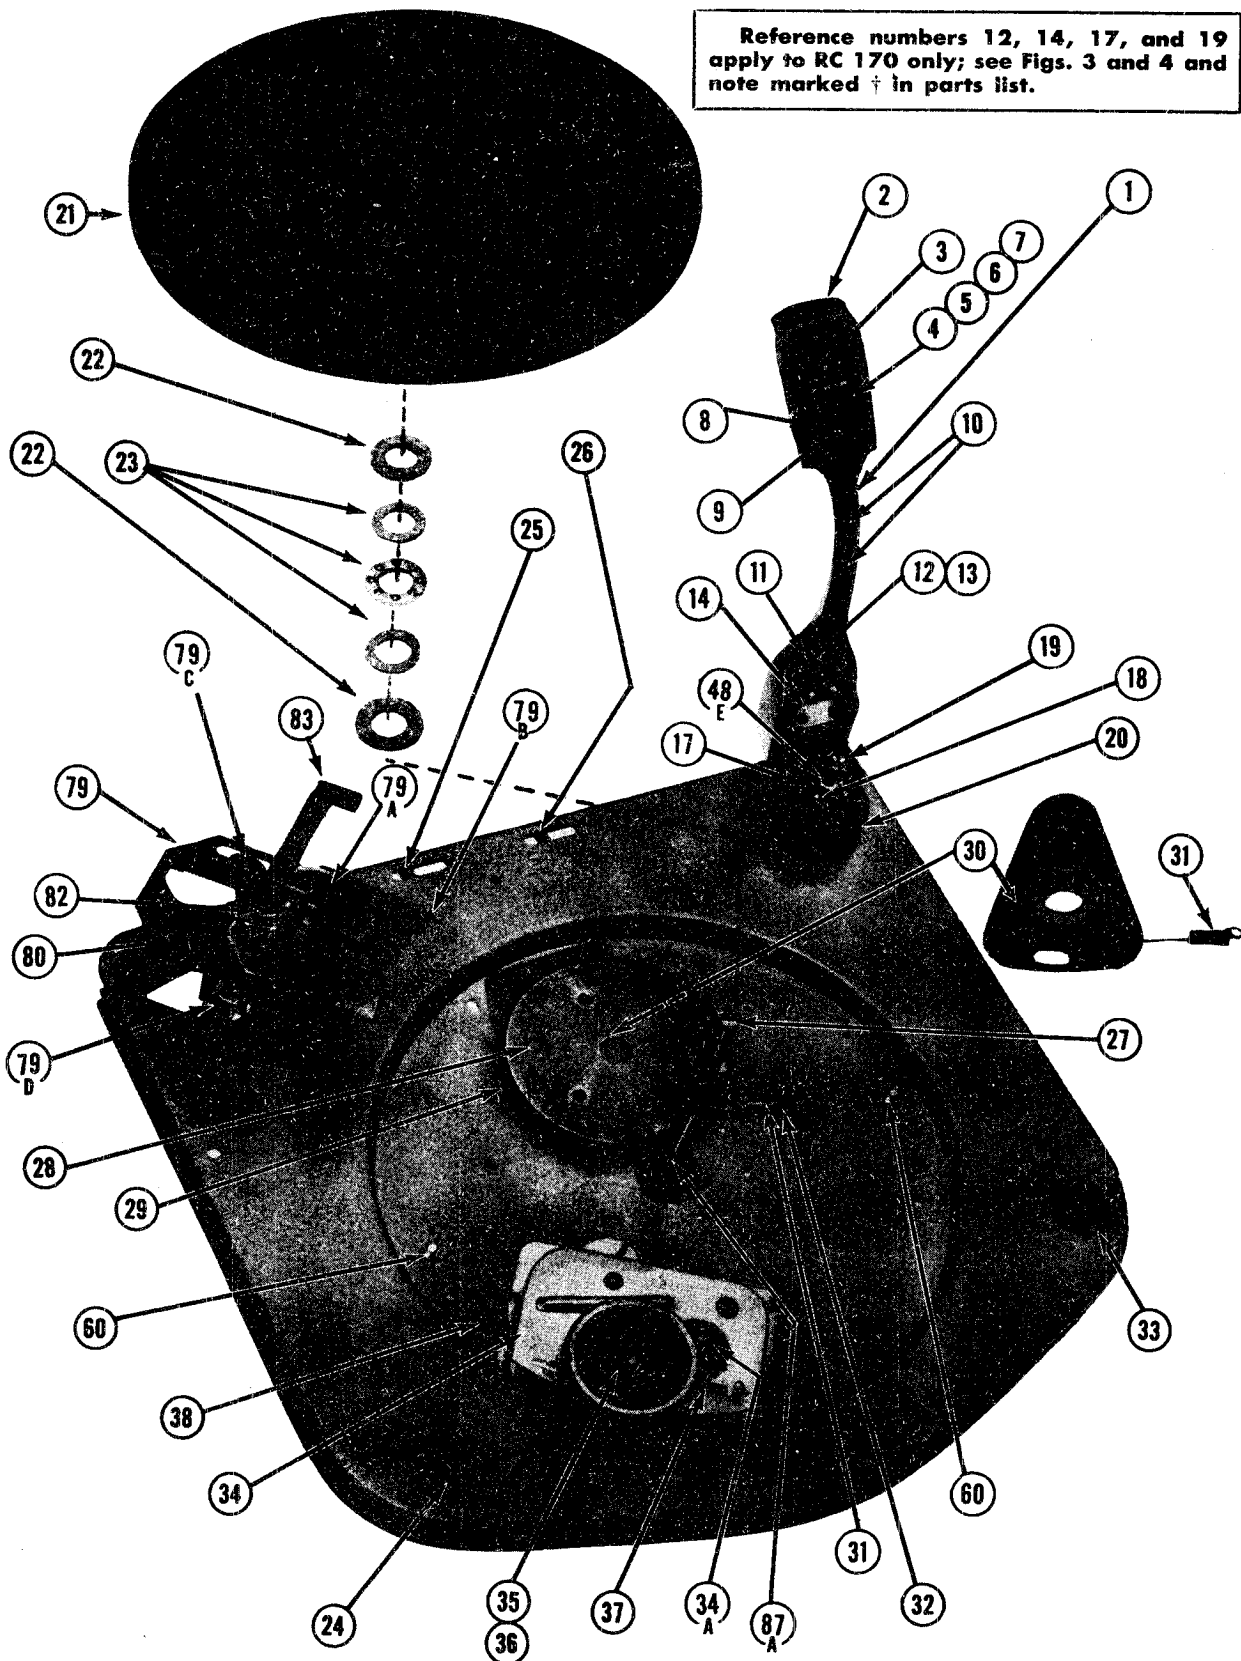

Figure 8. Top View of Record Changer
The changer operates as follows: The changer mechanism is driven during its change cycle by the knurled hub of the turntable rotating the rubber-tired drive wheel (28). During normal playing, the drive wheel is held in a neutral position as illustrated in Fig. 8 so that the indentation prevents the tire from contacting the knurled hub. The drive wheel (28) is held in this position by the trip lever (63) and the stop stud (65) on the main cam (66).
When a record has finished playing and the needle has reached the trip point, the arm control lever roller (48C, Fig. 7) makes contact with reject link (43A), moving the trip arm (43) which releases trip lever (63). The trip lever spring (62) moves trip lever (63) freeing cam stop stud (65) and allows spring (69) to pull the main cam clockwise (bottom view). Since the main cam (66) and the drive wheel (28, Fig. 8) are on the same shaft, the drive wheel is thus turned so its rubber tire is against the knurled hub of the turntable. The turntable now rotates the drive wheel (28) which in turn rotates the main cam (66). Roller (68), Fig. 7 riding on the main cam, moves arm control slide (52), and the raised portion (52A) of this slide raises arm lift shaft (This shaft is 19 on the RC170 and 103 on the RC170A.) which lifts pickup arm from the record. Stud (52C) moving with slide (52) pushes arm control lever (48A) causing the pickup arm to move to the right, clearing the record. The movement of roller (68) also causes trip lever (63) to re-engage in the recess of trip arm (43). Trip spring (61) holds the trip arm (43) and trip lever (63) together.
push-off plate 79A, Fig. 8. (Note that the record stack rests on plate 79A.) The shape of the main cam (66) is such that the push-off plate (79A) first moves back, allowing the bottom record to drop onto the record support plate (79B). Then the push-off plate (79A) slides forward and drops the next record to be played but only after the pickup arm has cleared the record stack. The little slide in the top end of the center post holds back all records other than the bottom one.
Adjust the 12-inch set-down with screw (25), Fig. 8. Turning screw (25) in (as seen through the left hand slot) moves the set-down point for 12-inch records further from the center post and turning the screw out moves it closer to the center post. The proper set-down point is between $5\frac{3}{8}$ " and $5\frac{1}{16}$ " from the needle to the near side of the center post.
The adjustment of the head assembly (79) is made by loosening the three screws, 85 (underneath the changer) and moving the assembly closer or further away from the center post as the case may be. The head assembly is in proper relationship to the center post when it is set with a dimension of $4\frac{7}{8}$ " from the front edge of the record support plate (79B, Fig. 8) to the rear of the center post (side nearest the record support plate) and at a point on the center post of the same height as the record support plate. This dimension is taken with the changer set to play 10-inch records.